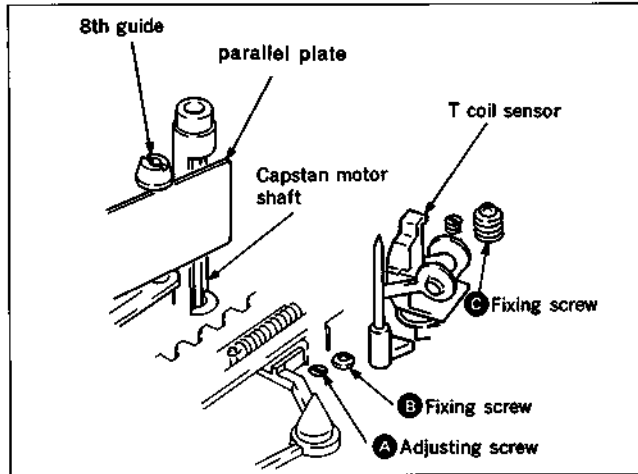

Fig. 7-19.
- 2) As shown in Fig. 7-19, put the parallel plate (Jig Ref No. J-2) on the capstan motor shaft and on the 8th guide sleeve perpendicularly.
- 6) Put on the parallel plate again as shown in Fig. 7-19, and check the perpendicularity of the capstan motor shaft. If improper, repeat Steps from 3).